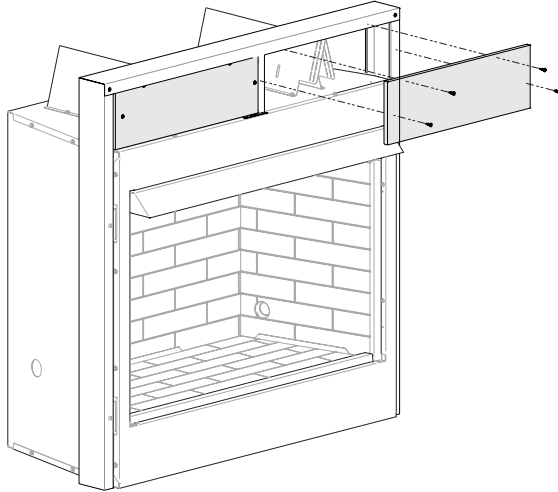

Figure 12
6. Locate the two non-combustible boards and place them above the fireplace as shown in Figure 12. Attach the non-combustible board to the studs with six 10-16 flathead screws.
7. Secure the non-combustible board to the middle bracket using two 10-16 flathead screws as shown in Figure 12.
5. Locate the two non-combustible boards and place them above the fireplace as shown in Figure 12. Attach the non-combustible board to the studs with six 10-16 flathead screws.
6. Secure the non-combustible board to the middle bracket using two 10-16 flathead screws as shown in Figure 12.